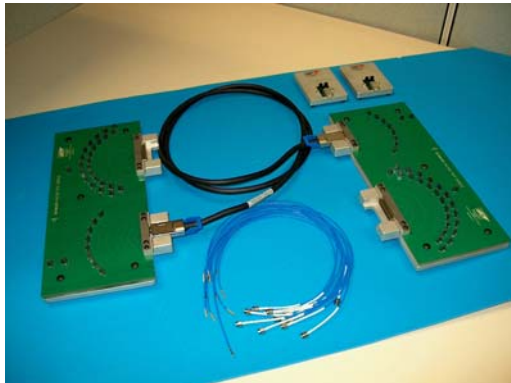

Figure 14 – Gore cable test fixture
- InfiniBand cable test fixture (available from Gore; see Figure 14)